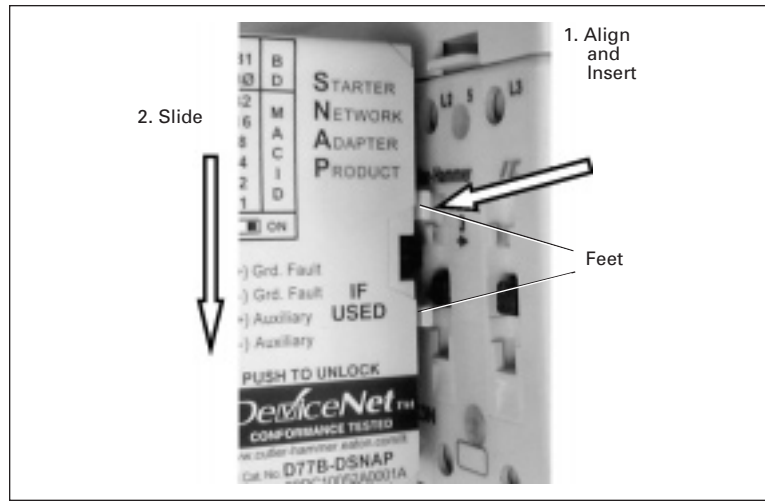

Figure 4: D77B-DSNAP Alignment and Mounting
Use the following steps and illustration in **Figure 4** to mount the D77B-DSNAP:
1. Align and insert both the D77B-DSNAP feet into the auxiliary starter contact mounting slots on the starter, as illustrated in **Figure 4**.